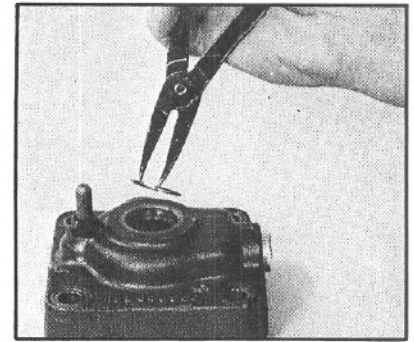

Figure 60
28. Remove the retaining ring (5) (FIG. 60).